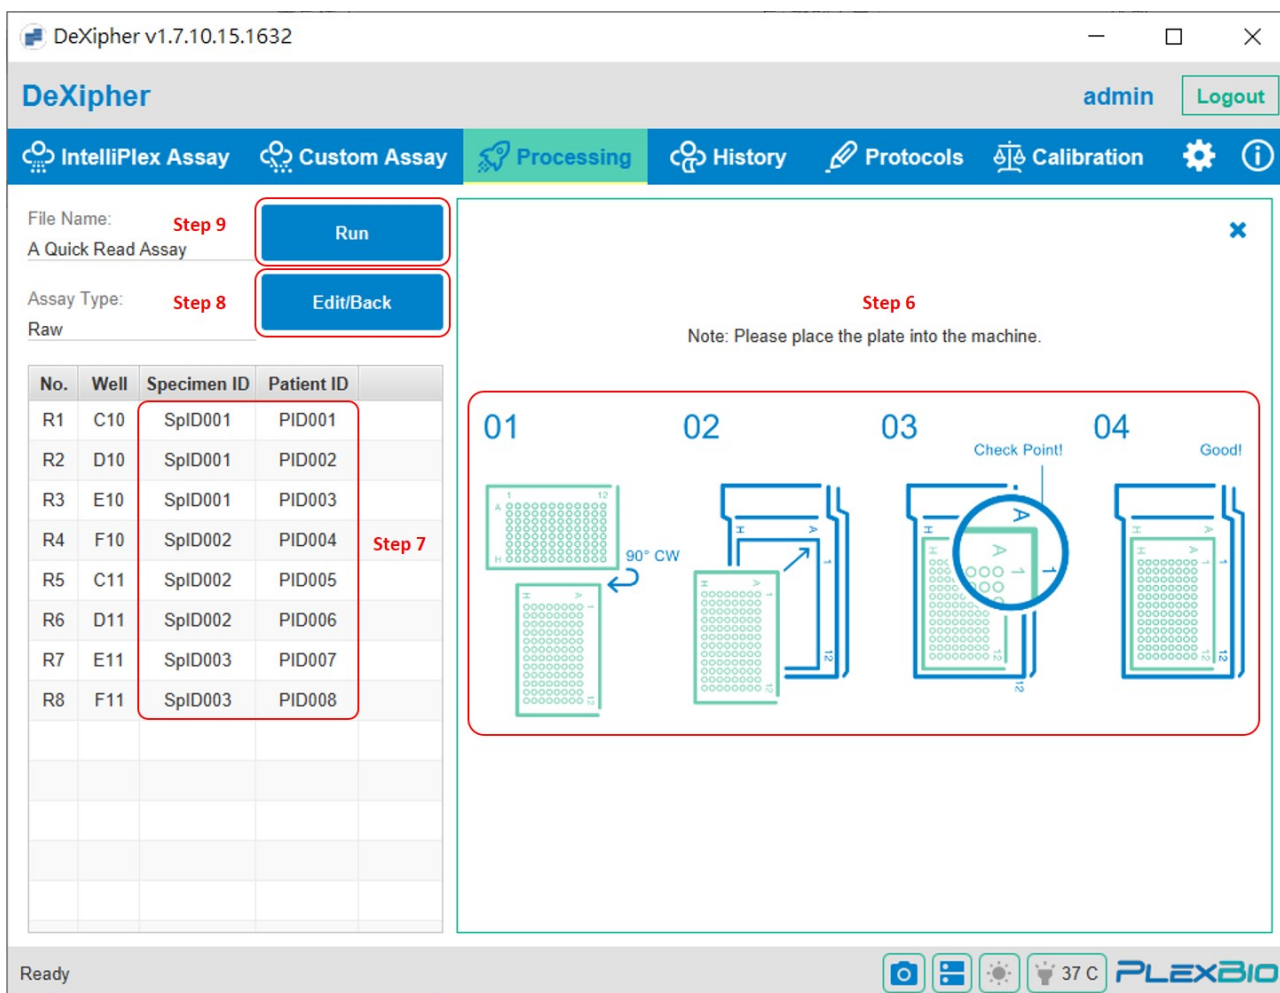

Fig. 21. Quick Read/Processing
- Step 5. The **Processing tab** will be activated (Fig. 21).